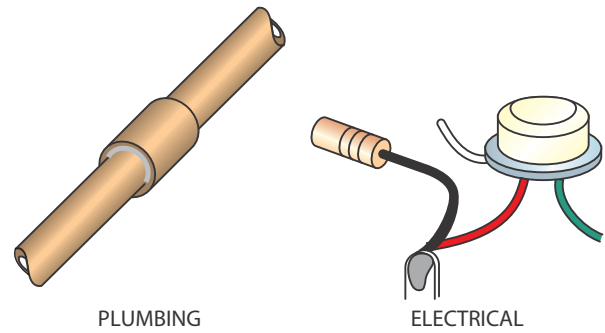

FIGURE 19-1 Examples of permanent joints that can easily be disassembled and the parts reused. © Cengage Learning 2012
- May be permanently or temporarily joined—Since the base metal is not damaged, parts may be disassembled at a later time by simply reapplying heat. The parts then can be reused. However, the joint is solid enough to be permanent, Figure 19-1.